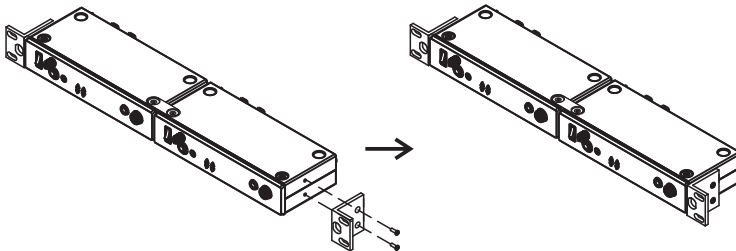

Fig. 7
- (C) Rack-mount with an optional rack-mount kit, as Fig. 7.